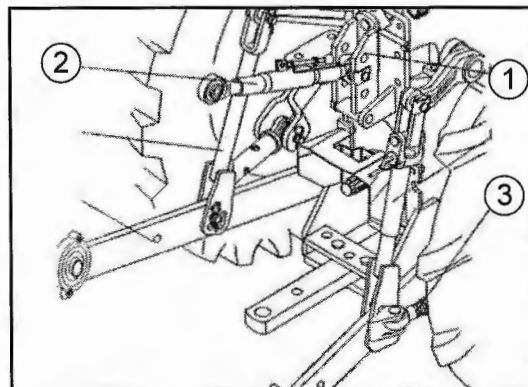

Fig. 23-3 - Top Link Attachment Bracket
The top link attachment bracket (1) has three holes. Select the most suitable hole. (See Fig. 23-3).